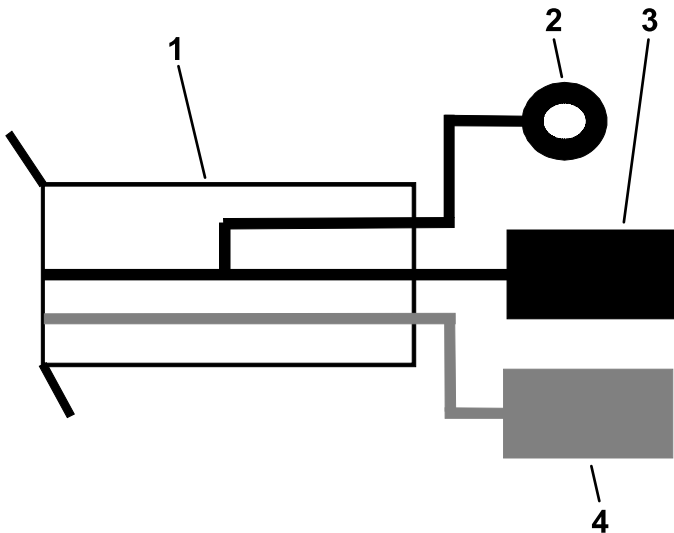

Figure 20
- Install the black ground wire to the ground wire on the Power Converter Kit wire harness (Figure 20).
- Install the red power wire to the power wire on the Power Converter Kit wire harness (Figure 20).